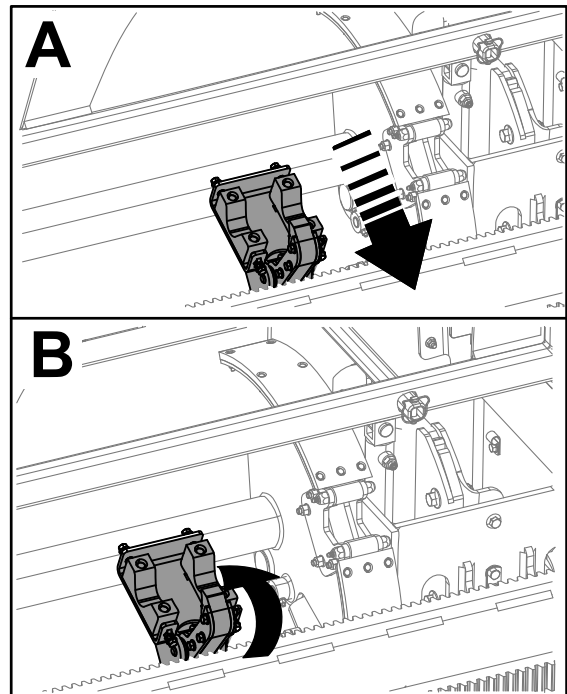

**Figure 32**
6. Release the rocker switch to proceed to the next step in the sequence (Figure 32).